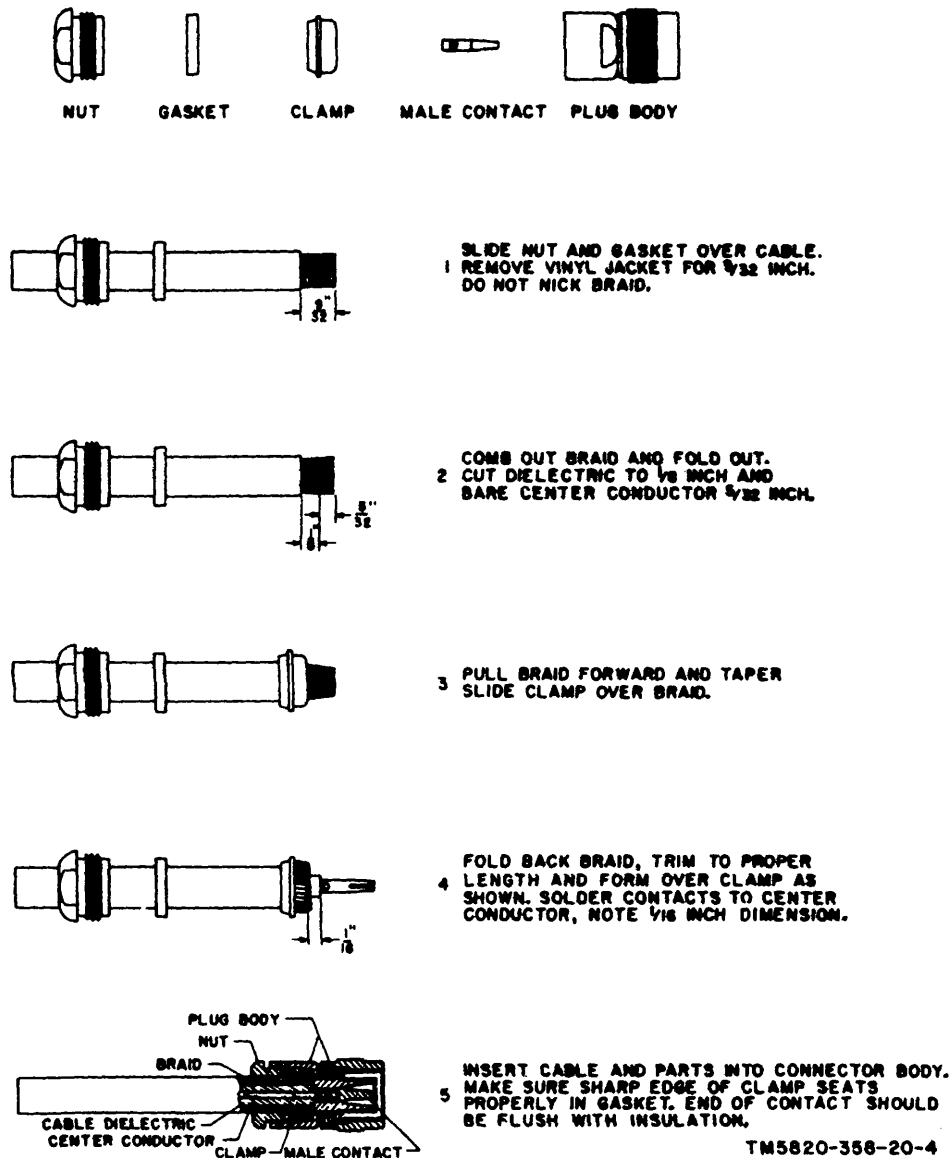

Figure 4. Assembly of Connector Plug Ug-573/U on coaxial cable.
- (1) For information concerning rhombic and doublet antennas, refer to TM 11-666.
- (2) For double-doublet information, refer to TM 11-2629.
b. *Assembling Connector Plug UG-573/U.* Figure 4 gives complete instructions for assembling Connector Plug UG-573/U or Connector Plug P-259.
- (1) *Fixed, tabletop installation.* The receiver is housed in Cabinet CY-917/ URR or in a similar well-ventilated case for fixed operation.
- (2) *Fixed, rack installation.* To install the receiver in a standard rack, proceed as follows: